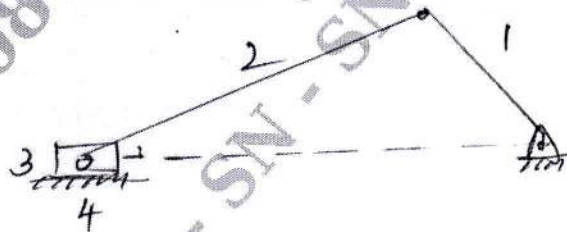

Fig.Q1 (c)
- c. Determine mobility of the mechanism. Refer Fig. Q1 (c). (04 Marks)